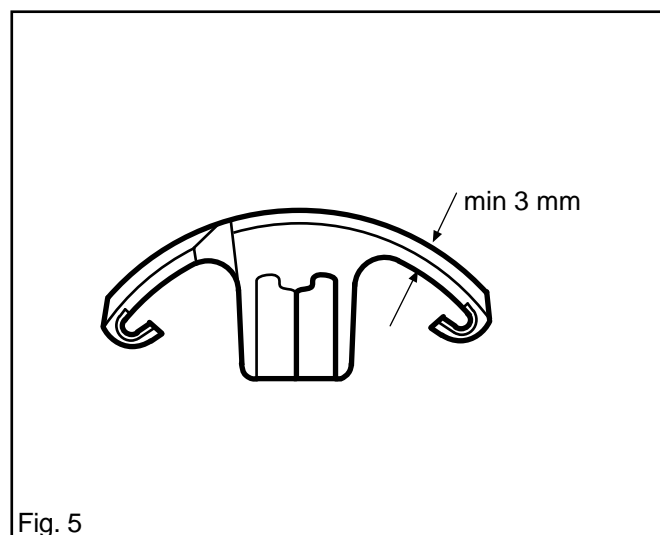

Fig. 5
1. Lining thickness on the clutch shoes should not be less than 3 mm in the most worn area. See fig. 5. In order to avoid imbalance, all clutch shoes should be replaced at the same time.